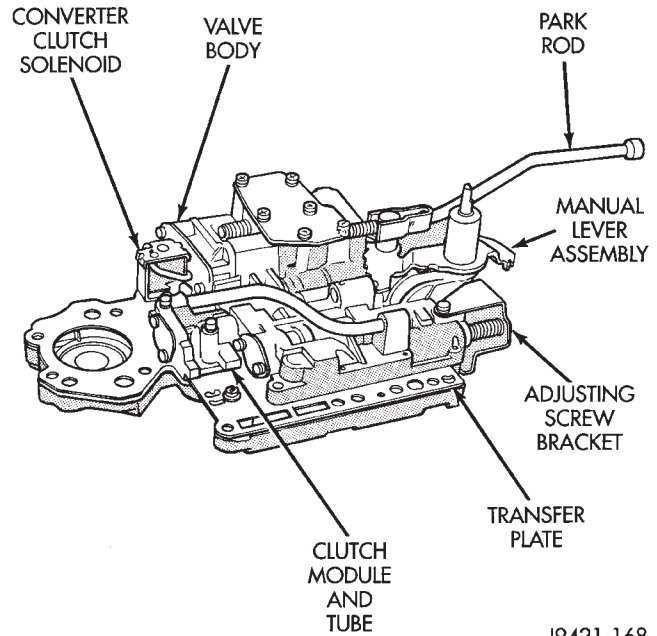

Fig. 12 Valve Body Assembly
- (8) Position valve body on bench or on repair stand for disassembly, cleaning and inspection (Fig. 12).